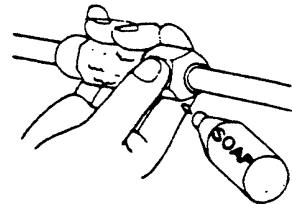

Fig. 33
- a) Check gas leakage of all joints with liquid soap. Fig. 33